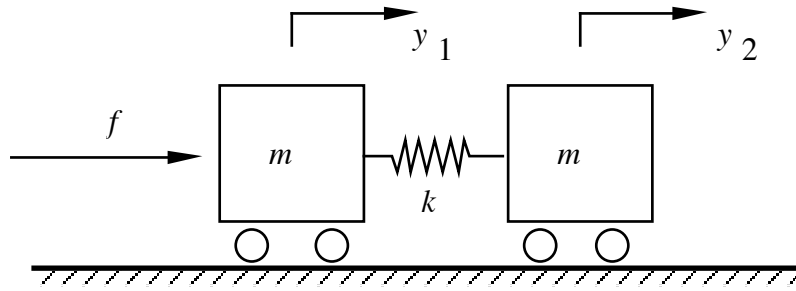

Fig. 6
6. Show that the equation of motion for the system shown in Fig. 6 may be written in the form